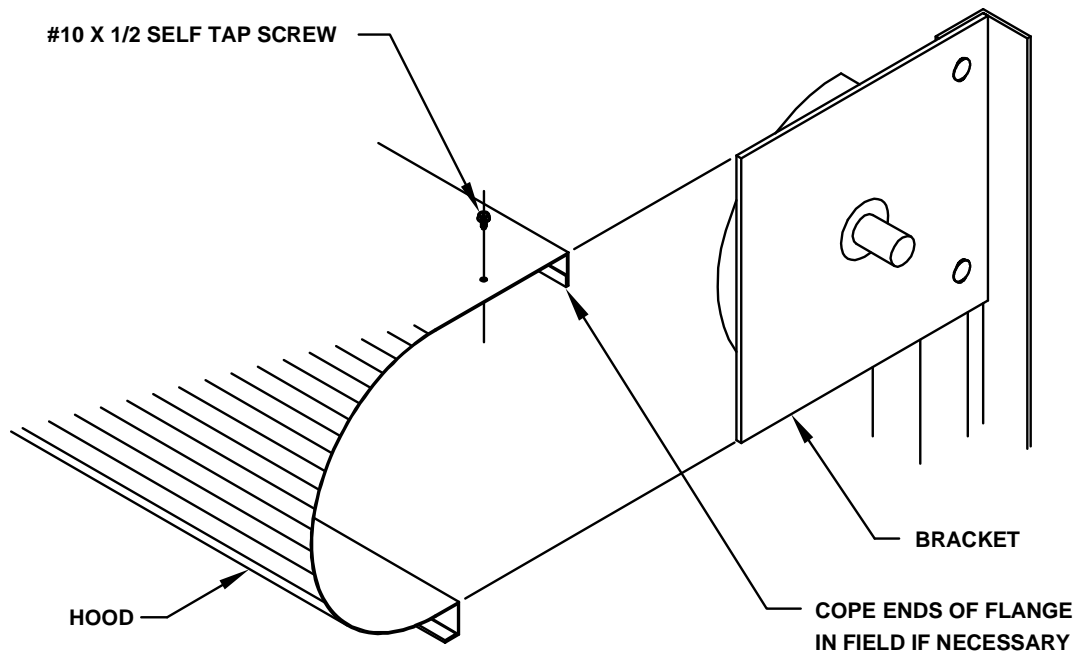

FIG 32
- 4) Finally, make sure the governor pawl is held in the disengaged position. (See FIG 32)
- 10) To reset the door, see reset instruction in FIG 32.